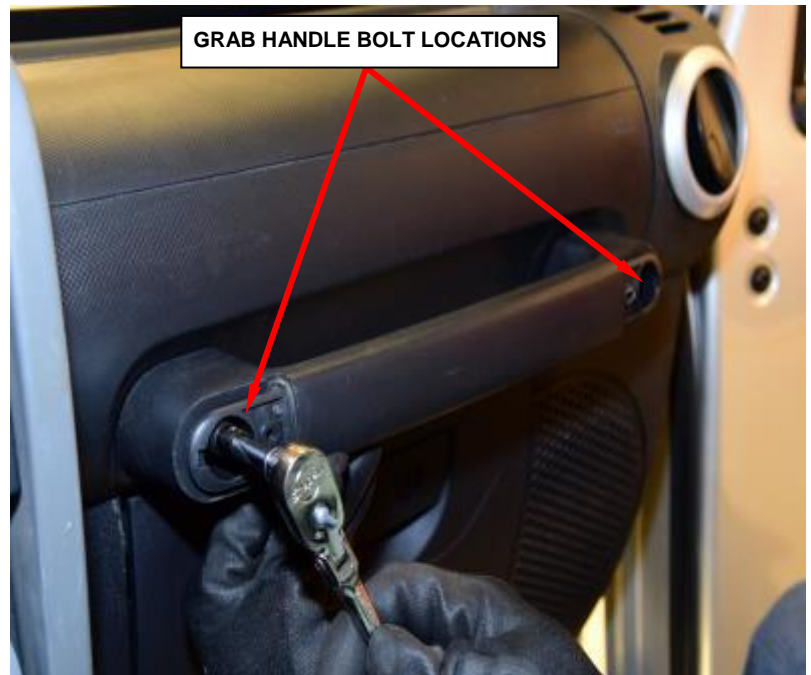

Figure 126 – Grab Handle Bolts
b. Remove and save the two bolts and remove the grab handle (Figure 126).